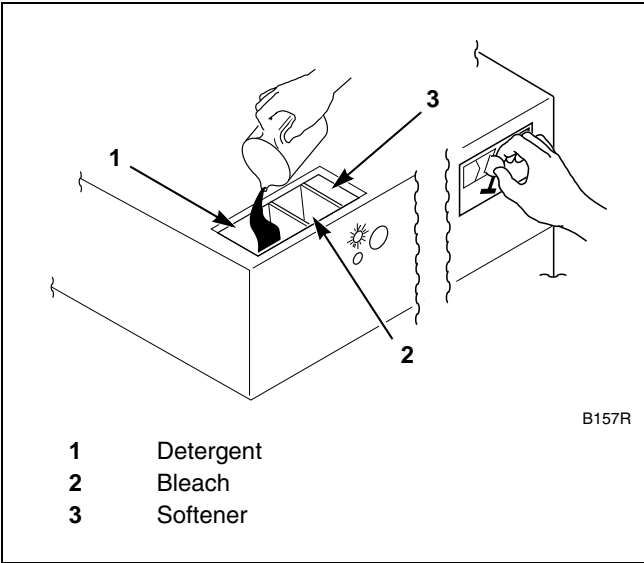

Figure 11
- 7. Add liquid and/or powder supplies to supply dispenser. Refer to *Figure 11*.
- 8. Add coins to machine. As each coin is added, the vend counts down to the amount remaining. Refer to *Figure 11*.